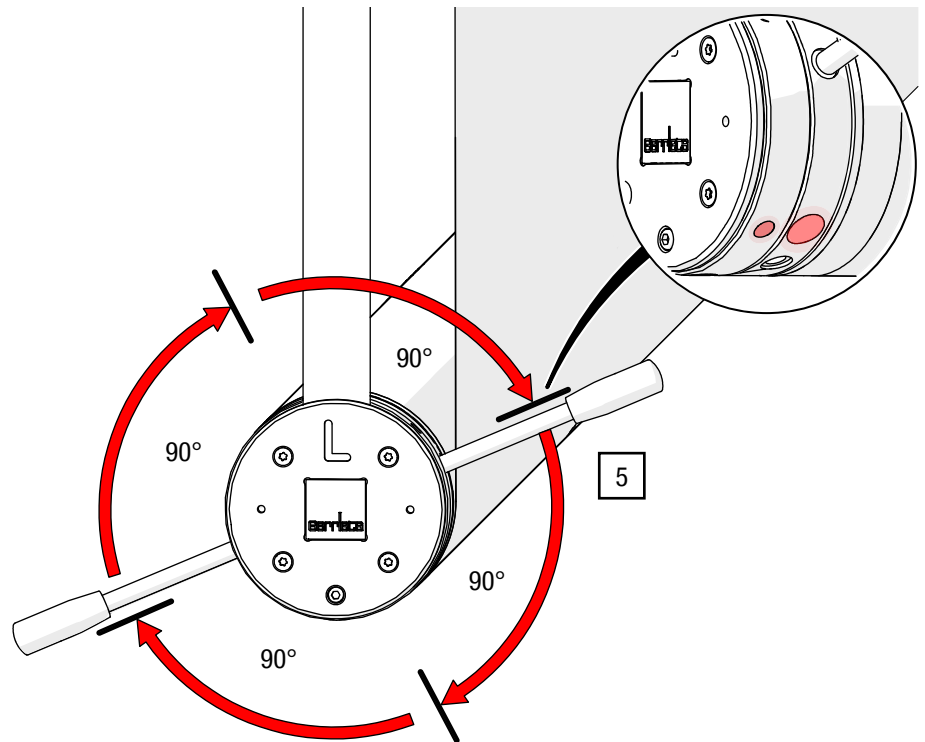

Fig. 32: Tensioning the coil spring with the clamping lever
5. Use the clamping levers to turn the clamping ring in the winding direction until sufficient pre-tension has been achieved. Ensure that the index marks are aligned with each other (see Fig. 32).